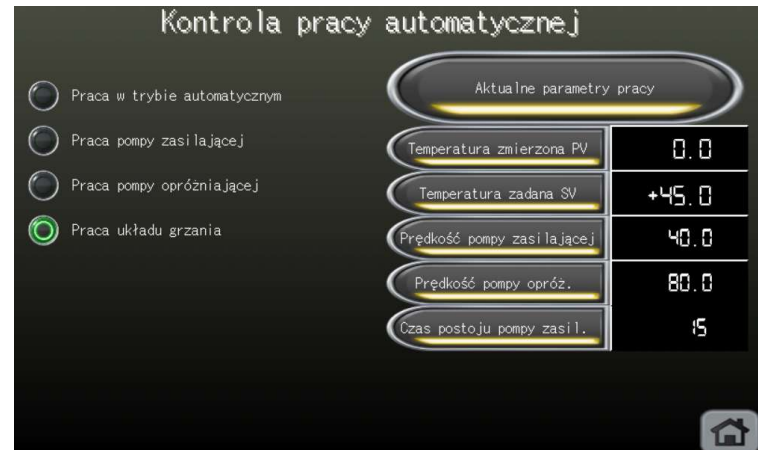

Fig.1
- activated automatic mode indicated by the light in the WORK PARAMETER CONTROL panel (Fig.1).